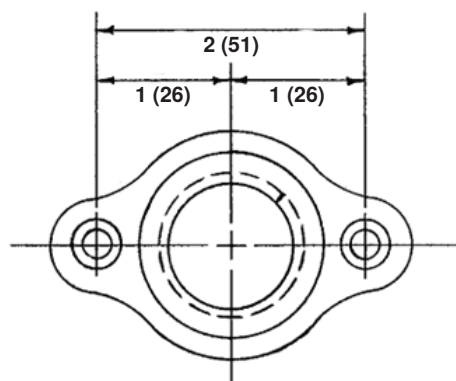

Figure 8. Waste Nut
1. Using waste nut (see Figure 8) as template, drill three holes—one 3/4-inch drain hole and two 1/4-inch fastener holes in furnace cabinet's bottom pan.